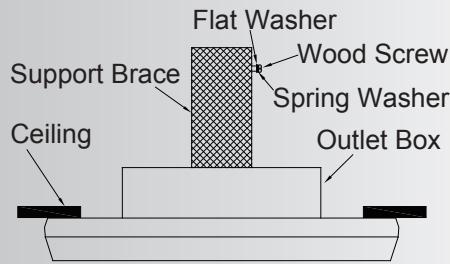

Fig. 6
Step 1. Drive a wood screw and washers into the side of the brace that holds the outlet box. Leave 3mm (1/8") of space between the support brace and the washer. (Fig. 6)